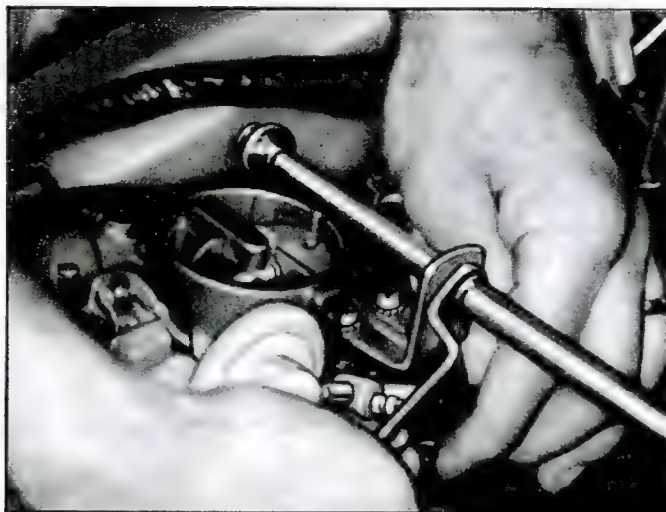

Fig. 9—Adjusting Accelerator Rod
10. Remove accelerator pull back spring from cross shaft lever, hold cross shaft lever in the full throttle position and pull accelerator control rod rearward (on vehicles equipped with Powerglide, pull through detent), and adjust swivel on accelerator control rod until it freely enters hole in cross shaft lever (fig. 9). Then connect swivel and pull back spring and be sure carburetors return to idle position (idle screws against throttle levers).